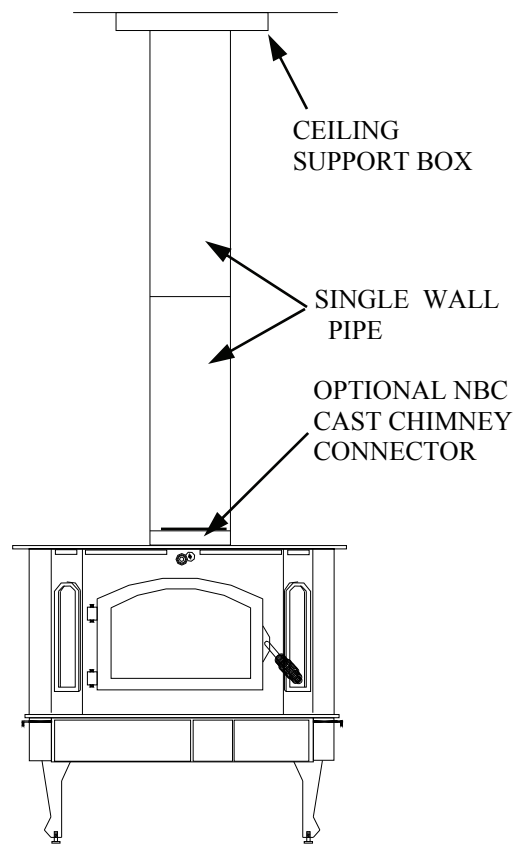

FIGURE 3
3. Connect the stove to the ceiling support box by using #24 ga. minimum blued or black steel chimney pipe. (DO NOT use galvanized pipe.) Each section should fit into the section below or into the opening on the stove, for drip-free operation. Secure each section together by using at least three (3) sheet metal screws or rivets.
4. You may secure chimney pipe to stove two (2) different ways.
- a. With Optional NBC Cast Chimney Connector, See Figure 3.